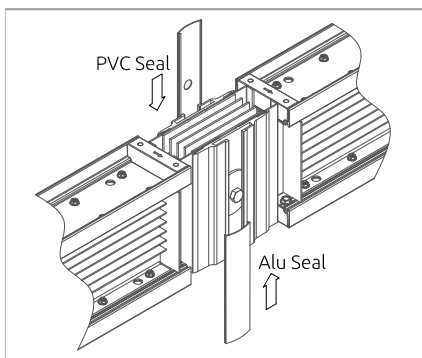

Figure 9.1
1. Joint two feeder together, and install alu seal and pvc seal as shown in Figure 9.1